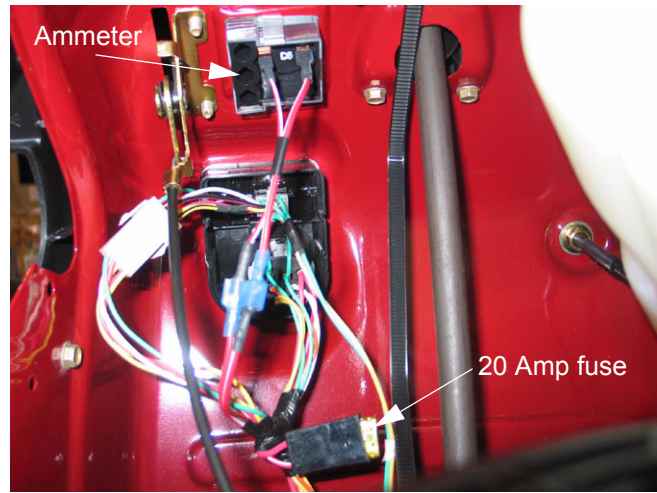

Figure 17.32
17.32. The 20A fuse and ammeter are both located near the RMC module / key switch assembly, under the dash panel. See Figure 17.32.